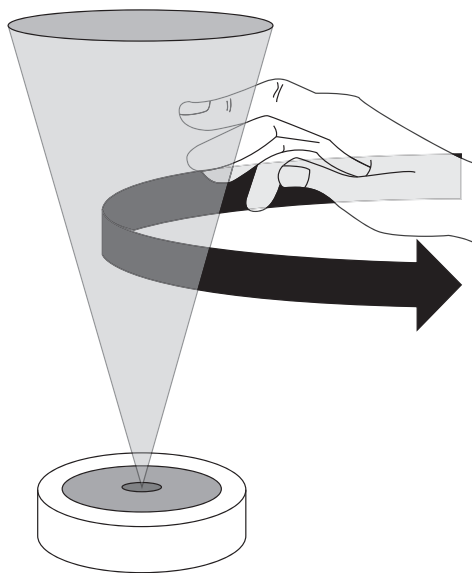

Figure 2b – Wave activation
- A 'wave' in which the object enters the beam and then back out the same side. Again, it's best to make the range approximately twice the nominal distance of the object. See Figure 2b.